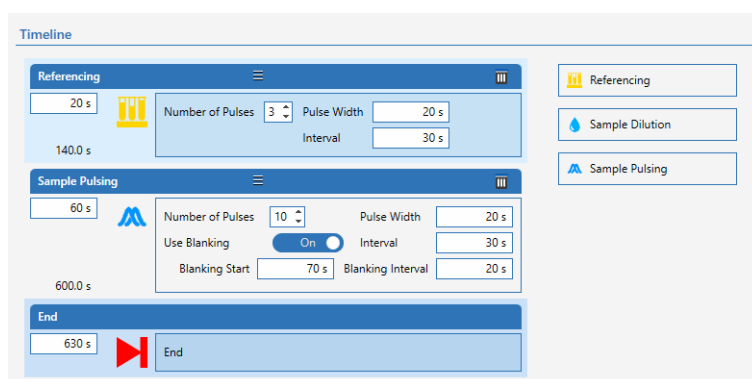

Figure 6-8. Qtegra timeline settings for blanking with multiple peaks, e.g., GasBench series configuration in standard mode without any traps
Qtegra will be configured to the following mode for blanking with multiple peaks independent from a ConFlo IV is set up or not (see Figure 6-8).
- Blanking Start: Time when the first peak appears, e.g., Sample Puls Start time plus the retention of the Interference Peak Start time. For example, as shown in Figure 6-8, 60 s pulsing plus 70 s (blanking) result in an autodilution split or ConFlo IV dilutor action at 130 seconds.